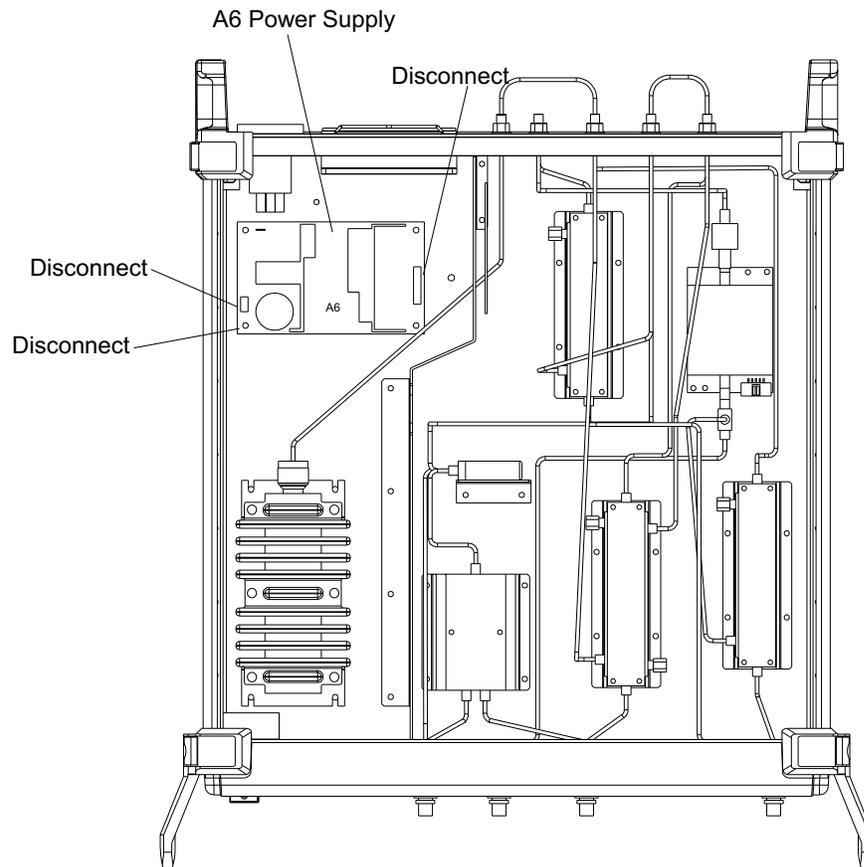

Figure 5-6. A6 Power Supply Removal (Bottom View)
- Step 2.** Disconnect three wiring connectors from power supply (Figure 5-6).